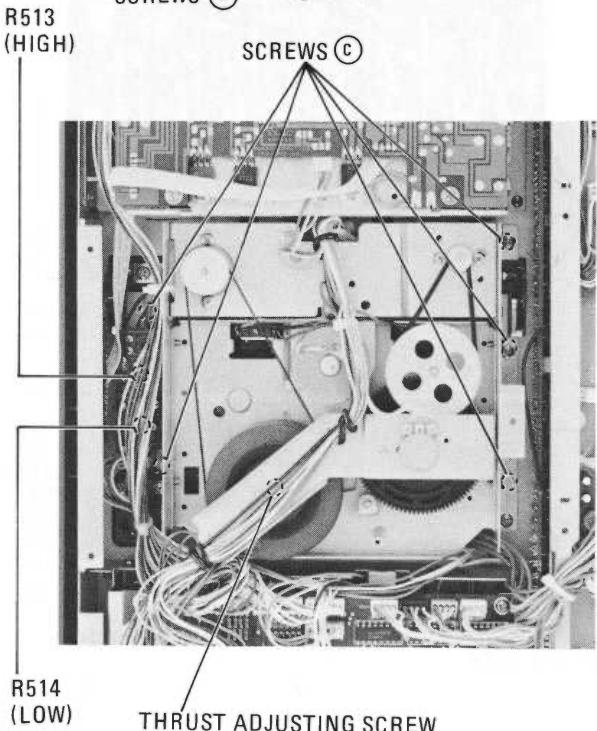

Fig. 4-3-2
- 1) Remove bottom cover, remove the five screws (c) holding the mechanism assembly. Refer to Fig. 4-3-2.
- 2) Remove the bottom cover, and turn the reduction pulley (Refer to Fig. 4-3-2) by hand to bring the head base upon the PLAY position.
Turn the thrust adjusting screw (Plastic); Refer to Fig. 4-3-2. Provided on the bottom of the flywheel so that thrust of the capstan shaft is within 0.1 mm to 0.2 mm.
- Adjust the trim pots (Refer to Fig. 4-3-2) provided on the rear side of the PITCH control variable resistor with a small "—" driver to obtain 3,000 Hz ± 5 Hz reading on the frequency counter.